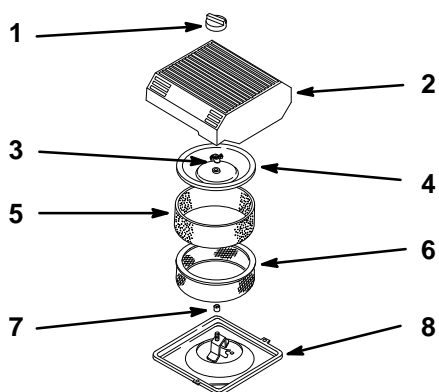

Figure 14
2. Clean around the air cleaner to prevent dirt from getting into the engine and causing damage. Unscrew the knob and remove the air cleaner cover (Fig. 14).
3. Carefully slide the foam element off the paper element (Fig. 14).
4. Unscrew the cover nut and remove the cover and paper element (Fig. 14).
1. Carefully slide the foam element onto the paper air cleaner element (Fig. 14).
2. Place the air cleaner assembly onto the air cleaner base (Fig. 14).
3. Install the air cleaner cover and secure with cover nut (Fig. 14).